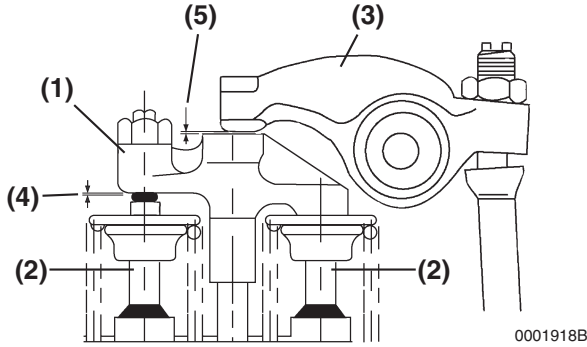

Figure 6-77
The 4-valve cylinder head operates two valves with a single rocker arm by employing a valve bridge (Figure 6-77, (1)) between the two valves (Figure 6-77, (2)). Clearance (Figure 6-77, (4)) between the valve bridge and valves must be set before adjusting the clearance (Figure 6-77, (5)) between the rocker arm (Figure 6-77, (3)) and valve bridge.
3. Make sure there is clearance (Figure 6-77, (5)) between the valve bridge (Figure 6-77, (1)) and the rocker arm (Figure 6-77, (3)).